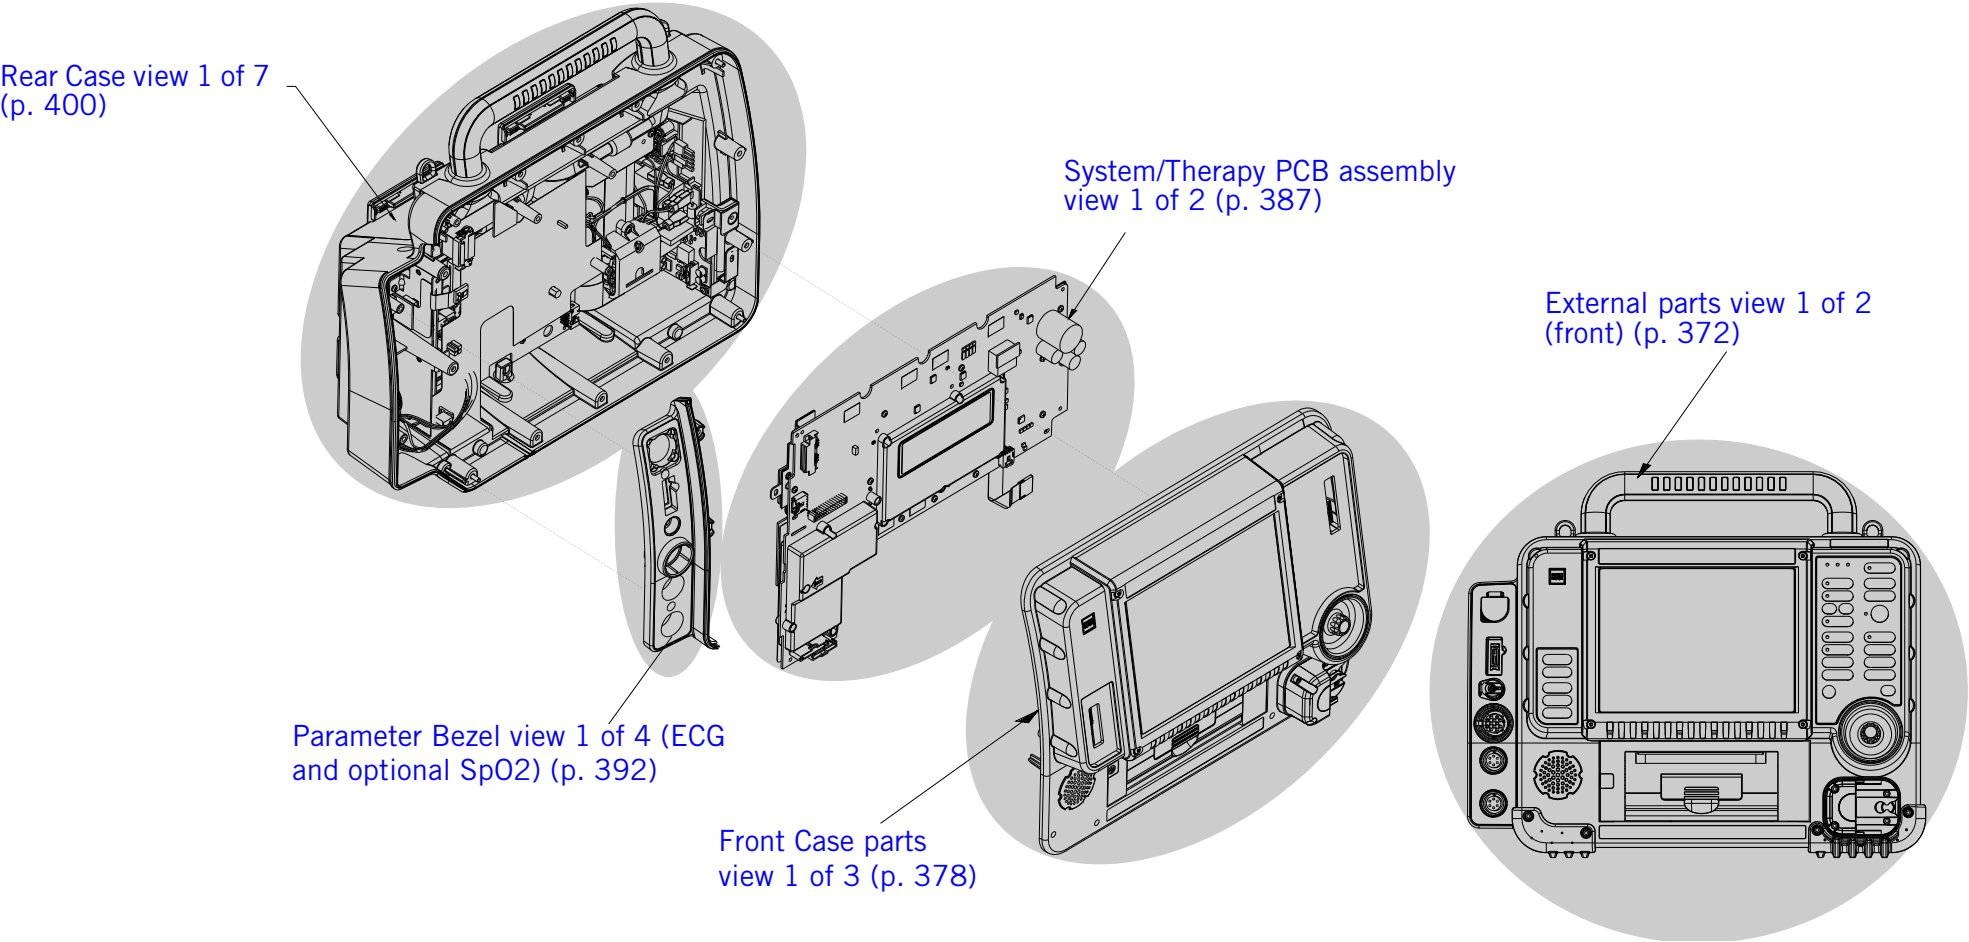

Figure 9.1—Assembly diagram configurator
- Assembly Diagram Configurator (Figure 9.1 on p. 369)—shows the main parts of the device with links to detailed assembly diagrams.